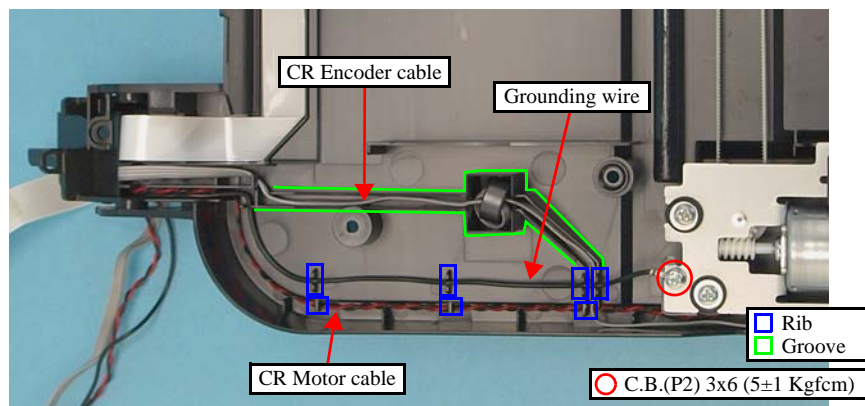

Figure 4-115. Removing the CR Motor Unit (2)
- When removing the CR Motor Unit, route the cables as below. (See Figure 4-115.)